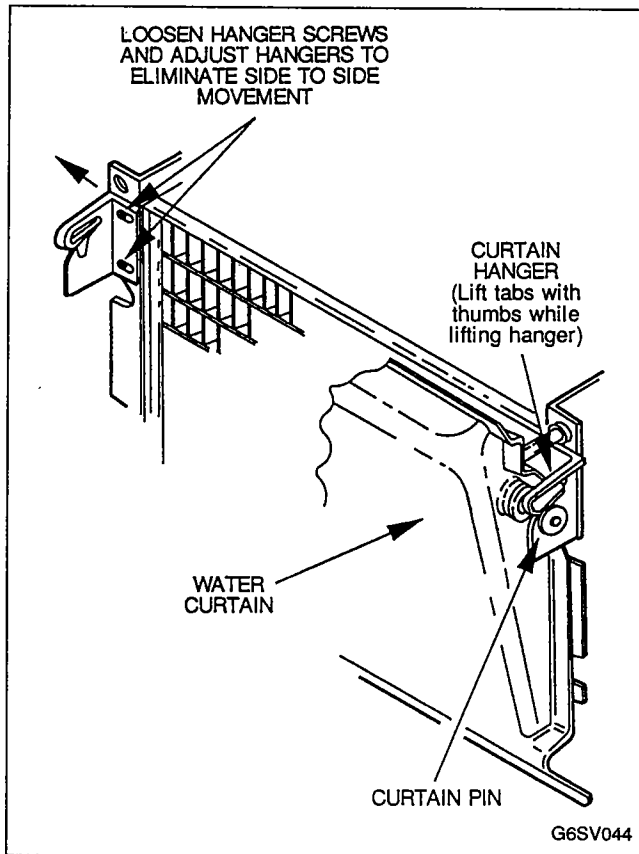

FIGURE 44. WATER CURTAIN CHECK
1. Pull bottom of water curtain (Figure 44) away from evaporator, then release. Curtain should fall back to evaporator.